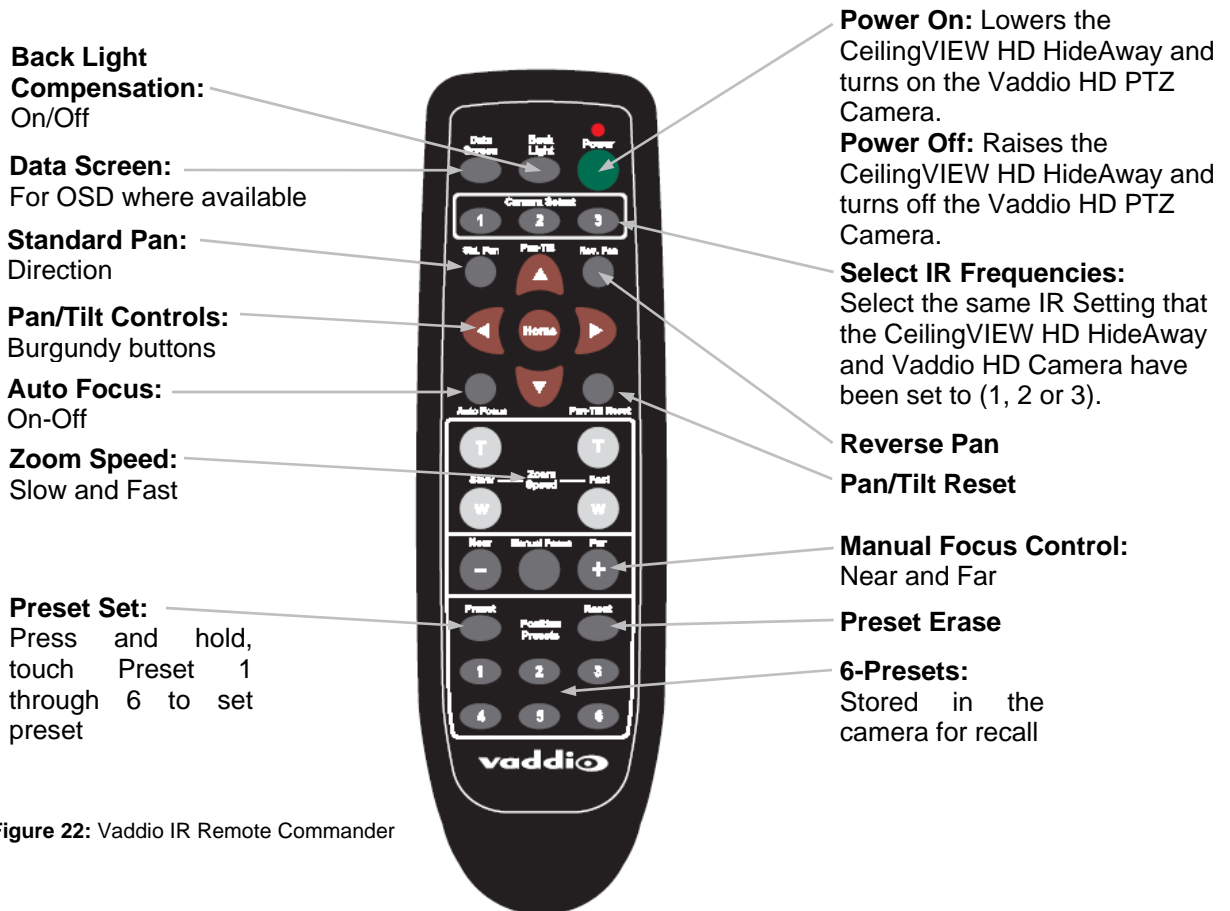
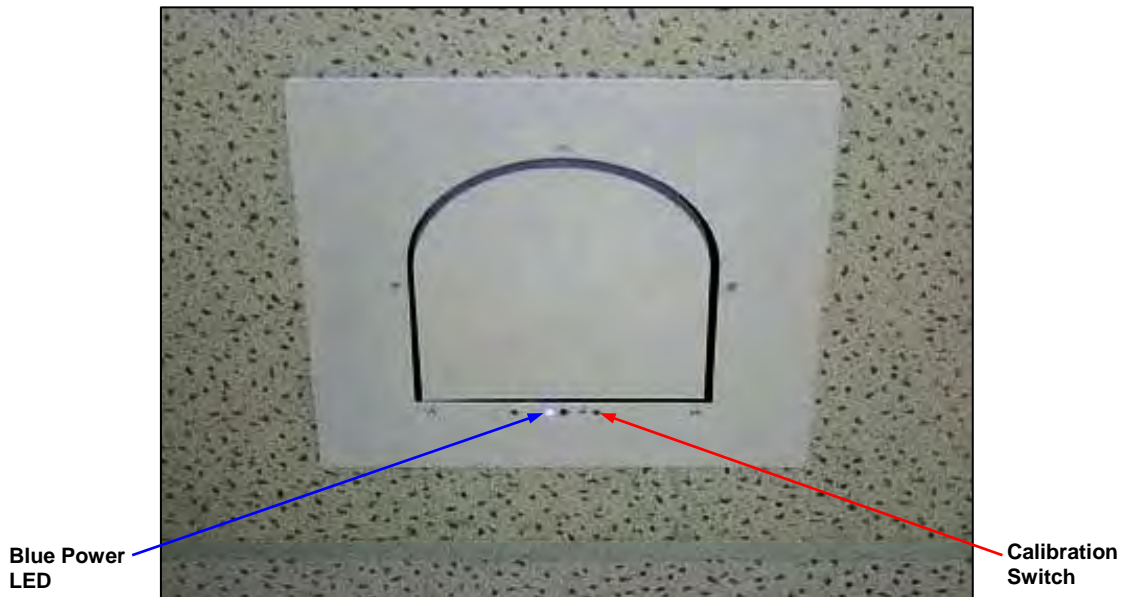

Figure 22: Vaddio IR Remote Commander
Figure 23: CeilingVIEW HD HideAway Ceiling Trim Ring/Calibration Switch Location
- 2) Use the Power Button (green) on the Vaddio IR Remote Commander to power the CeilingVIEW HD HideAway on and lower the camera lift (see Figure 22). The Vaddio IR Remote Commander must be pointed to the CeilingVIEW HD HideAway (in the direction of the IR Sensor in the Trim Plate Assembly (see Figure 23) to activate the CeilingVIEW HD HideAway and lower the camera lift. Once the camera lift
- 2) Use the Power Button (green) on the Vaddio IR Remote Commander to power the CeilingVIEW HD HideAway on and lower the camera lift (see Figure 26). The Vaddio IR Remote Commander must be pointed to the CeilingVIEW HD HideAway (in the direction of the IR Sensor in the Trim Plate Assembly (see Figure 23) to activate the CeilingVIEW HD HideAway and lower the camera lift. Once the camera lift is lowered, the Vaddio IR Remote Commander must be pointed to the front of the Vaddio HD PTZ Camera in order to be received by the camera to control PTZ functions.